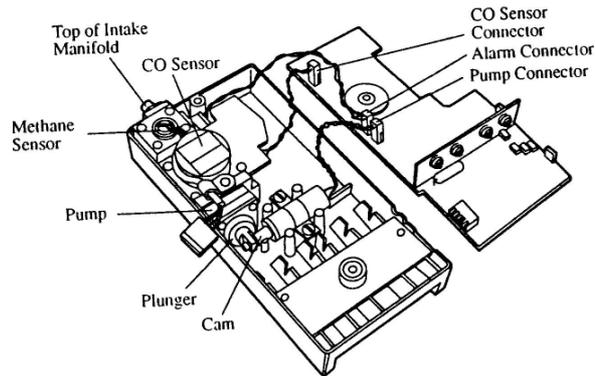

Fig. 8. Intake manifold assembly inside a detector.
Disconnect all the connectors on the underside of the main circuit board and remove the board. Since the connectors may appear to be the same, take note when disconnecting to prevent swapping when reconnecting (see Fig. 8).
5. Put the main circuit board along the side of the case and reconnect all connectors on the bottom of the board (see Fig. 8). Flip the main circuit board over and into place in the case verifying that the connector leads are not crimped or strained. Reconnect the cable to the 6-pin connector on top of the board and secure the cable clamp to the manifold with the screw. The connectors are all keyed to ensure correct orientation, but if incorrectly oriented they can still be forced into their receptacles. Exercise care when reconnecting to prevent swapping.